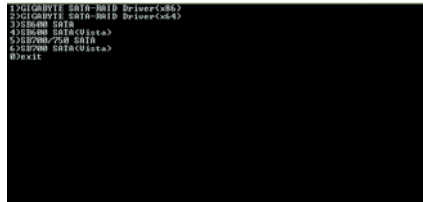
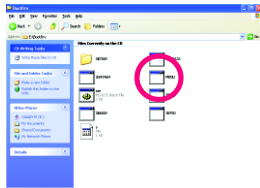

Figure 2
Figure 3
Step 2: When the controller menu (Figure 2) appears, remove the startup disk and insert the blank formatted disk. Select the controller driver by pressing the corresponding letter from the menu. For example, from the menu in Figure 2, to install Windows XP to your RAID/AHCI hard drives, select (5) SB700/750 SATA for the AMD SB750 SATA controller. Your system will then automatically zip and transfer this driver file to the floppy disk. Press <0> to exit when finished.
Use an alternative system and insert the motherboard driver disk. From your optical drive folder, double click the MENU.exe file in the BootDrv folder (Figure 3). A command prompt window will open similar to that in Figure 2.